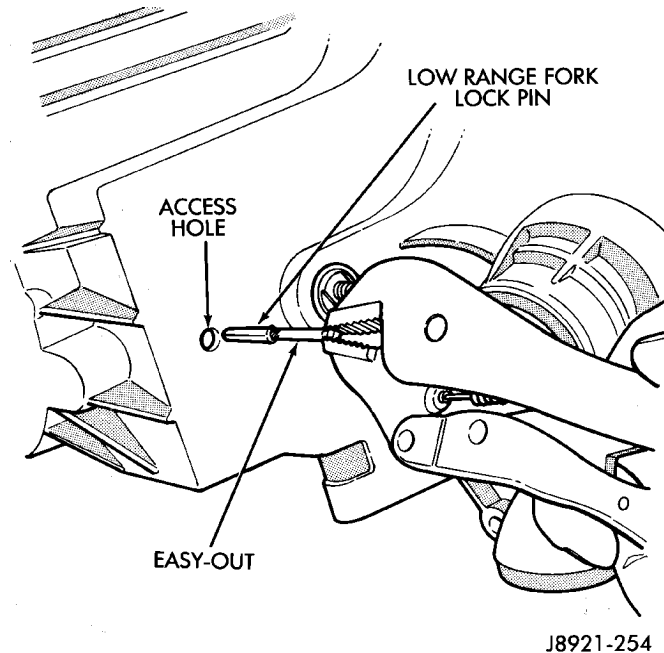

Fig. 81 Installing Low Range Fork Lockpin
(19) Rotate shift sector to align lockpin hole in low range fork with access hole in case.
(20) Insert an easy-out in range fork lockpin to hold it securely for installation (Fig. 81). **Lockpin is slightly tapered on one end. Insert tapered end into fork and rail.**
(21) Insert lockpin through access hole and into shift fork (Fig. 81). Then remove easy-out and seat the pin with pin punch.